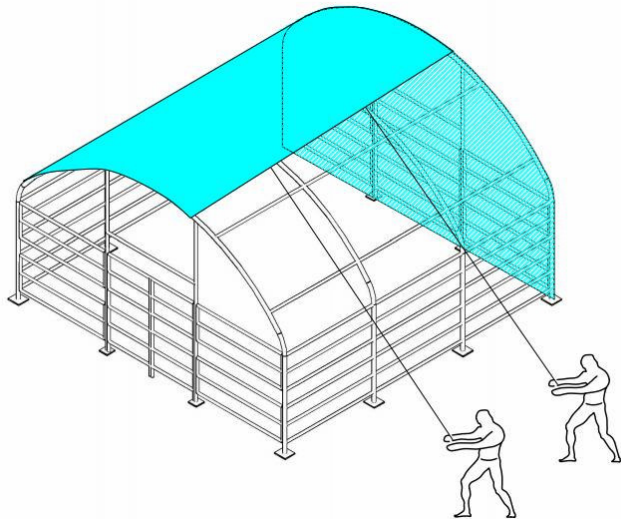

Figure 10
3. Find some people to throw the rope from one side to the other side up and over the construction of the frame, then pull the rope as Figure 10 shows.